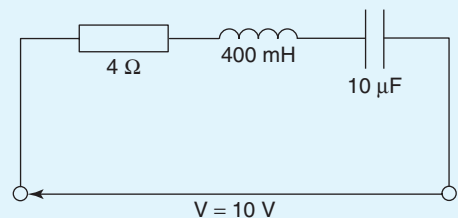

Figure 15.27
18. For the circuit shown in Fig. 15.27, the value of Q-factor is: